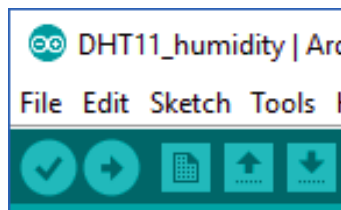

Figure 4: Choosing the Right Port
4. To run your code on the arduino, click the check button then the arrow (Figure 4). The check button compiles and verifies your code, and the arrow flashes the code to the board.